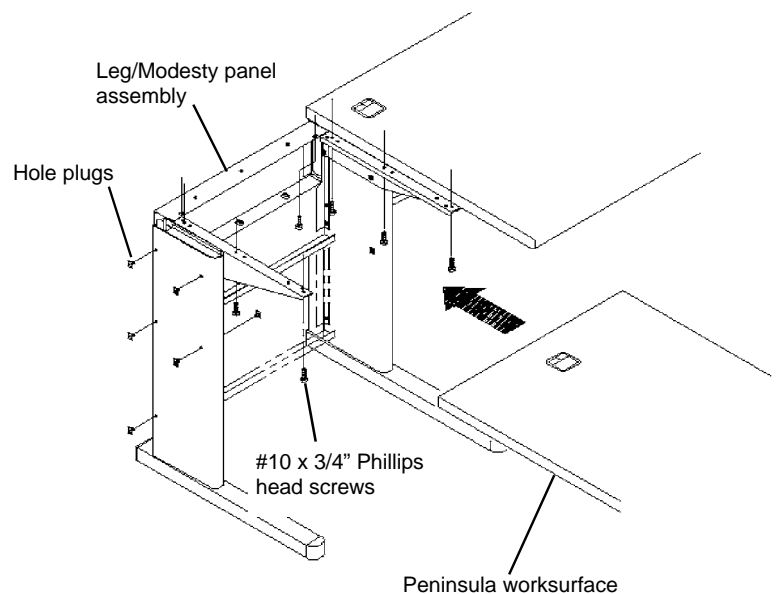

Figure 6
8. With two people, turn the Peninsula upright and place it onto the Leg/Modesty Panel assembly. Align the pre-drilled holes in the worksurface with the oval holes in the Modesty Panel and the holes in the Top Support. Fasten with the #10 x 3/4" Phillips head screws provided. See **Figure 6**.
9. Install the plastic hole plugs into the remaining holes in the Peninsula leg assembly. See **Figure 6**.